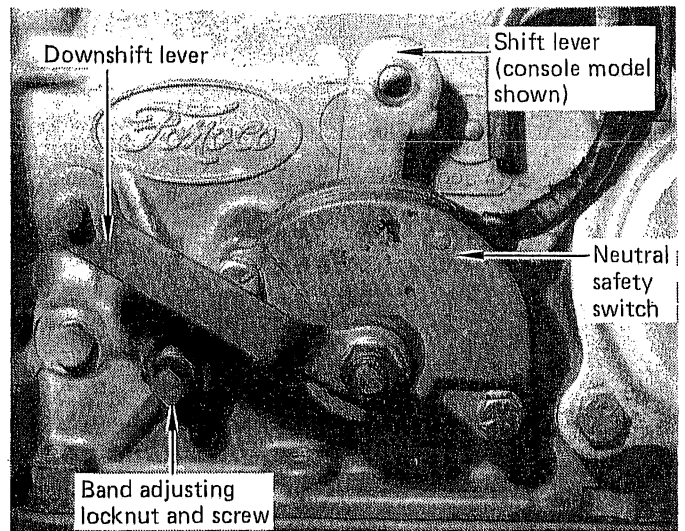

FIGURE 1
STEP 2. Manually operate the downshift lever on the transmission with the gas pedal depressed half way. Note how it moves freely with no bind. (See Fig. 1.) Observe how the internal linkage engages the valve body.
STEP 4. Adjust the front band: Loosen the outer jam nut with 3/4" wrench. (See Fig. 1) Tighten the band adjusting screw to 120-in.lbs. and back off 1-3/4 turns. Hold band adjusting screw in this position and tighten jam nut securely.